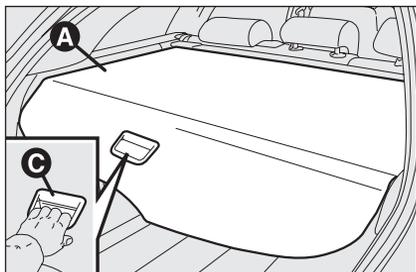

fig. 17
The luggage compartment cover **A-fig. 17** can be rolled up and removed.
**IMPORTANT** Hold the cover by handle **C-fig. 17** and guide it during rolling up.